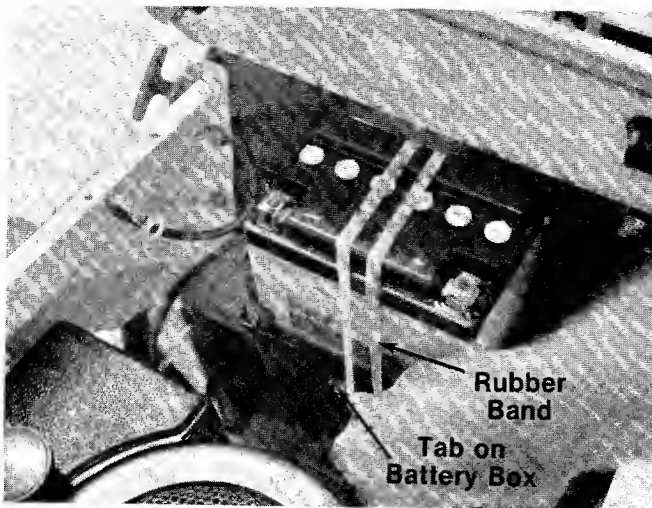

FIGURE 11.
12. Secure the battery to the battery box by stretching the rubber band (H) provided across the battery. Loop each end around the tab on the sides of the battery box. See figure 11.